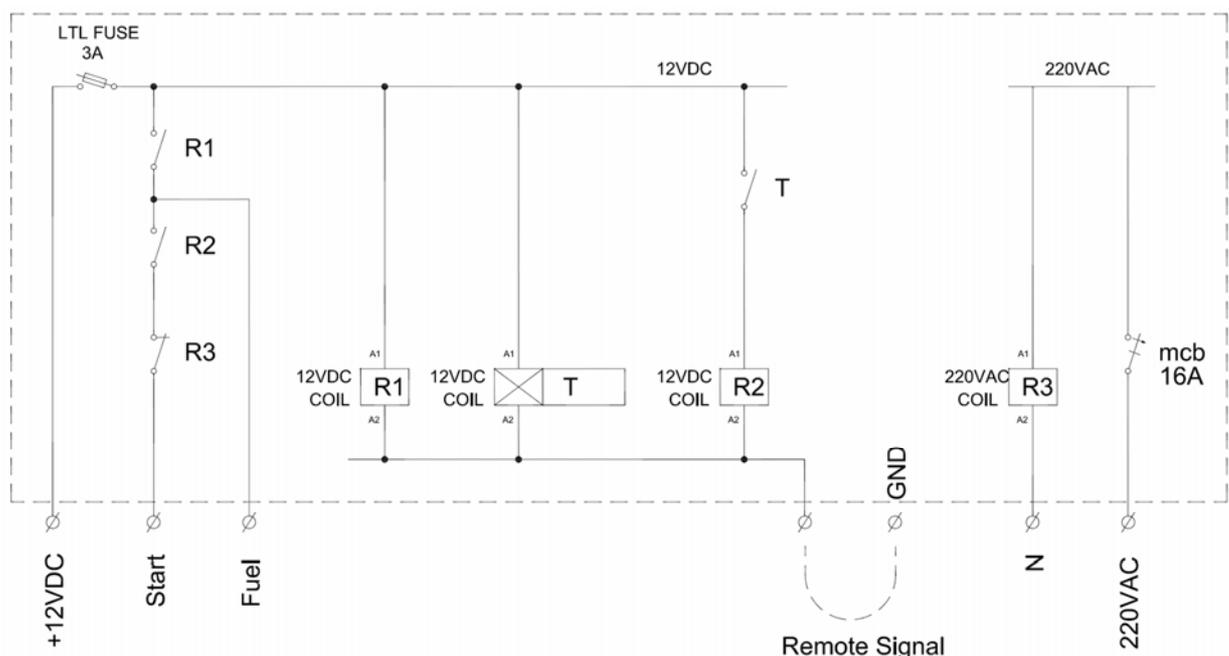
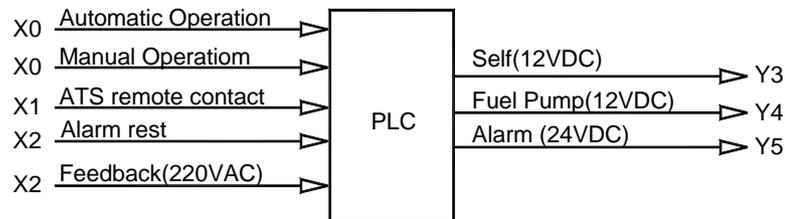

Fig. 6.3 Generator self starting control diagram/
Figure 6.6: The I/O addresses of the PLC.
1. It is desired to implement the above illustrated generator self starting system shown in figure 6.3 using PLC, the I/O addresses of the PLC are assigned as shown in Figure 6.6. Draw the I/O connection diagram for this system.